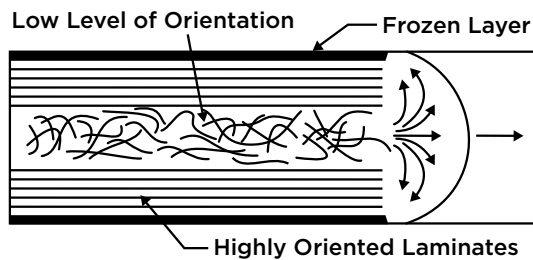

FIGURE 45 - Non-Newtonian fluid flow
- Figure 45 shows an example of the gate freeze study. The gate freeze time is 6 seconds, therefore the ideal hold time is 7–8 seconds